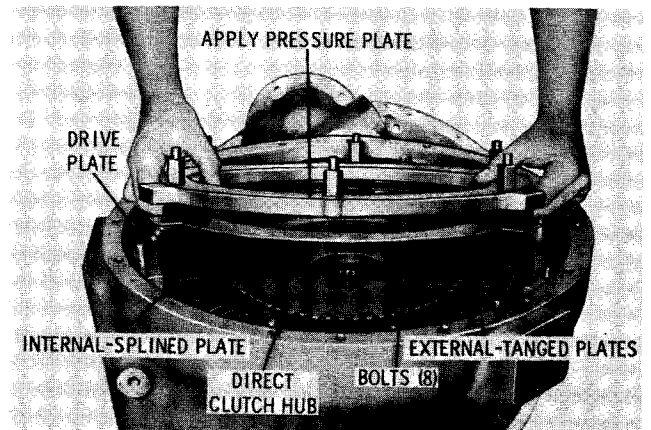
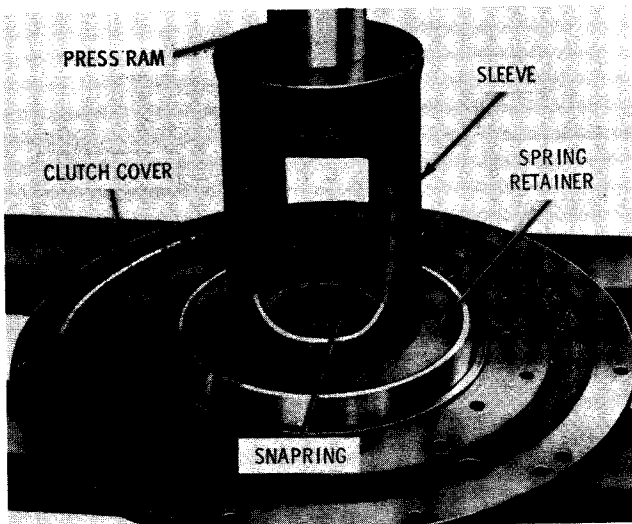

Fig. 5-20. Removing (or installing) clutch apply plate and direct clutch plates (VH series)
Fig. 5-22. Removing (or installing) spring retainer snapping (VH series)
(2) Remove the clutch apply plate (fig. 5-20), four external-tanged and three internal-splined clutch plates from the drive plates. Some earlier model transmissions will have five external-tanged and two internal-splined clutch plates.
(4) Remove nine bolts from the opposite side of the clutch cover. Remove the direct drive clutch piston and hook-type sealring from the clutch cover.
(5) Remove nine bolts 35 (B, foldout 12) and nuts 12 and remove hydraulic clutch driving cone 13 from clutch cover 33. Remove clutch cone hub 14 and thrust washer 15.
(6) Position the clutch cover assembly (fig. 5-22) in a press and, using a suitable sleeve, compress the assembly enough to remove the snapping from the groove in the hub of the cover. Remove the spring retainer. Remove the sealring and expander from the outer diameter of the retainer (para 4-8).
(7) Remove six piston return springs 20 (B, foldout 12) and remove clutch piston assembly 21. Remove sealring 24 and expander 25 (para 4-8). Remove hook-type sealring 26 from clutch cover 33.
(8) Remove eight bolts (fig. 5-20), that retain the bearing retainer and clutch drive plate to the bevel gear sleeve, through holes in the direct clutch hub.